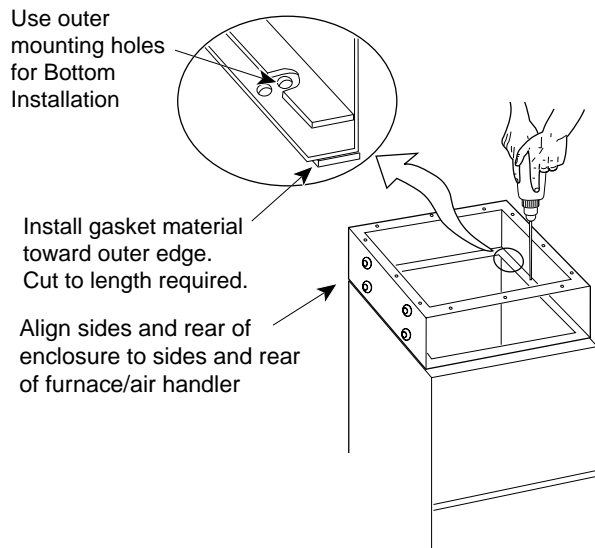

Figure 5. Bottom Installation Details
7. It is recommended that sheet metal turning vanes be installed inside an elbow on ductwork attached to the entering airstream side of the air cleaner. This improves the air distribution over the cells. (See Fig. 5)
2. Position the furnace/air handler on a protective pad on the floor with the bottom of the furnace/air handler in the up position (see Fig. 5).